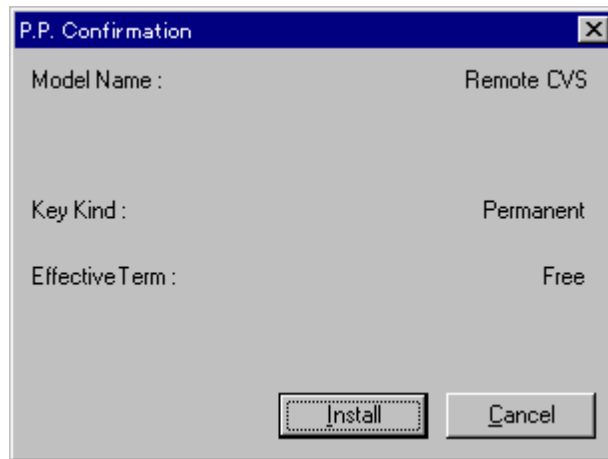

Figure 2.4 Program Product Confirmation Panel
5. If the password is approved, the Program Product Confirmation panel (see Figure 2.4) opens. This panel shows the program product model name (e.g., **Remote CVS**), type of key (e.g., **Permanent**), effective term (e.g., **Free**). After confirming the content of the Program Product Confirmation panel, select **Install**.
12. If the password is approved, the Program Product Confirmation panel (see Figure 2.4) reopens. This panel shows the program product model name (e.g., **CVS**), key kind (e.g., **Permanent**), and effective term (e.g., **Free**).